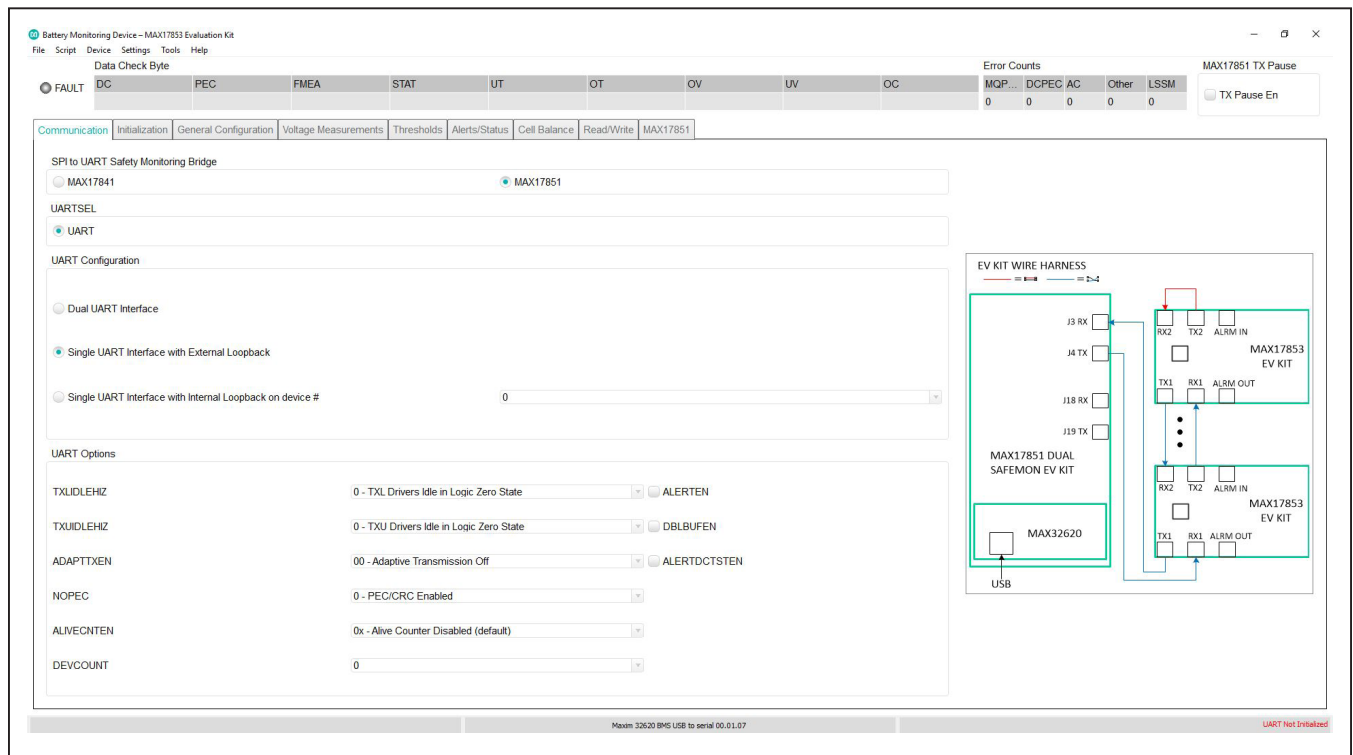

Figure 24. Communication tab
- 4) Start the MAX1785X EV KIT software by opening its icon in the Start Programs menu. The EV kit GUI software automatically establishes communication with the MAX32620 interface. The status bar at the bottom of the GUI displays **Maxim 32620 BMS USB to serial 00.01.xx and UART Not Initialized** (see Figure 24). With the MAX32620 detected, the user can proceed to the next step.
- 5) In the **Communication** tab (Figure 24), select the **MAX17851** radio button.
- 6) Click on the **Dual UART Interface** radio button (Figure 24).
and establishes communication with the MAX32620 interface board and places the user on the **Communication** tab (see Figure 24). UART status is shown in the lower-right corner of the cockpit.
The GUI is preset to UART communication with a dual UART interface (see Figure 24). When selecting the UART configuration, the hardware graphic updates to reflect the proper wiring interface for the selected UART. To enable the **MAX17851** tab, the user must select the **MAX17851** radio button.